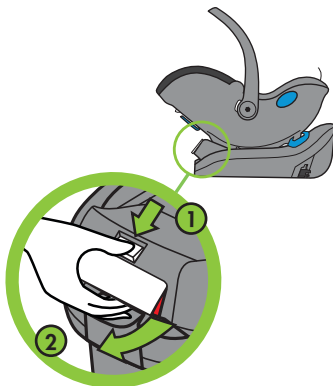

Figure 26
Use thumb to press down and hold Carrier Lock Tab (1). While holding the Carrier Lock Tab down, pull out and hold the Release Handle to the open position (2) as shown in **Figure 26**.